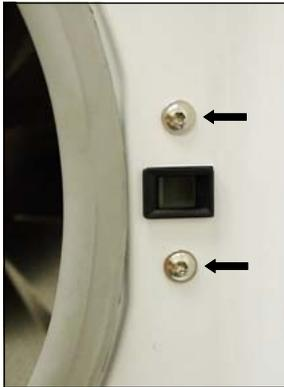
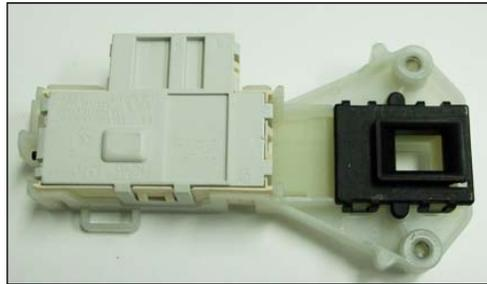

Fig. 7-1
Fig. 7-2
- To remove the Door Switch, remove the two (2) T-15 Torx screws (Fig. 7-1). Then remove the Top Panel as described in Section 2. With the Top Panel removed disconnect the wire harness from the Door Switch and replace (Fig. 7-2).